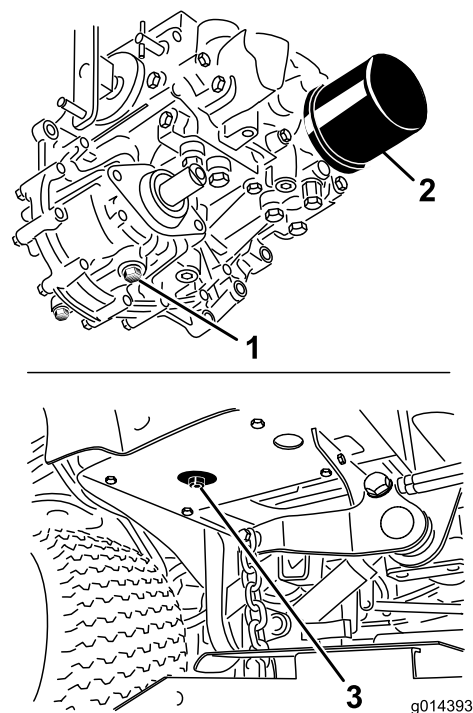

Figure 67
3. Place a large pan under the hydraulic reservoir and transmission case and remove the plugs, draining all of the hydraulic fluid (Figure 67).
4. Clean the area around the hydraulic oil filter and remove it (Figure 67).